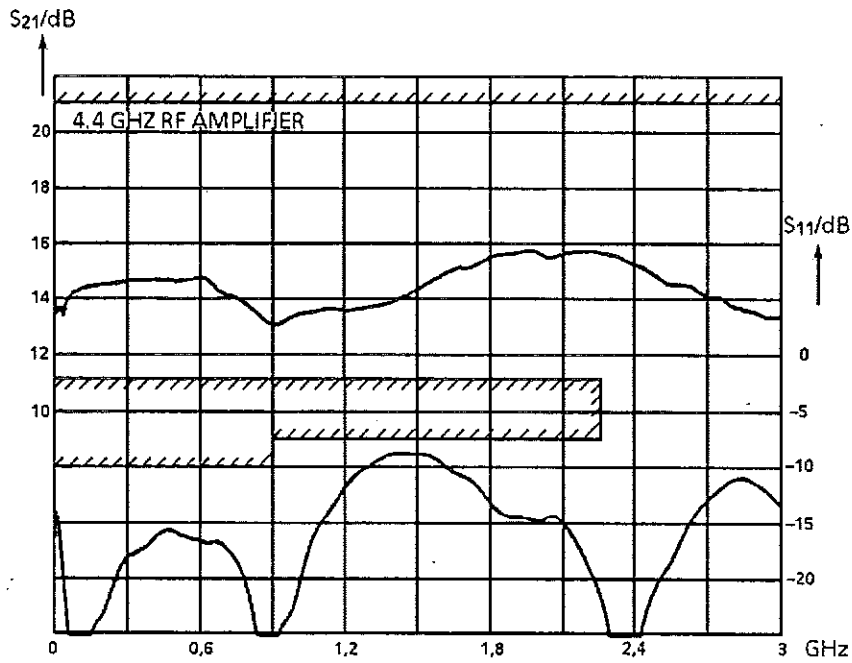

Fig. 5-2 $|S_{11}|, |S_{21}|$ for X131 to X161 or X163 to X161, typical curves and tolerance masks
- Connect analyzer to X131 and X161, set frequency on SMHU to 1 MHz and check S11, S21 according to Fig. 5-2.